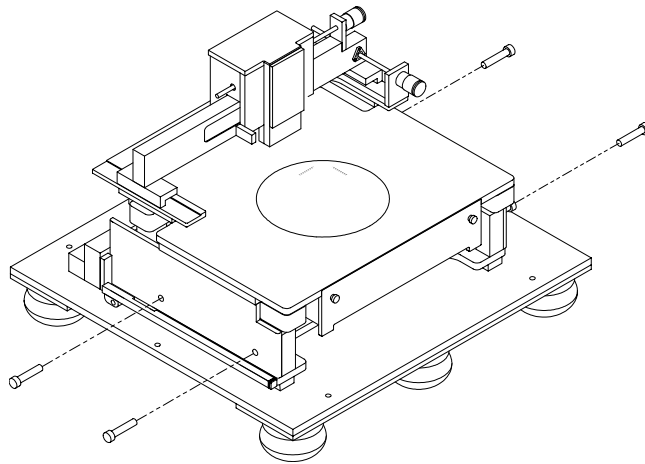

Fig. 11. Lifting handles.
7. Screw in the lift handles (two on each side). Note that the front handles may not screw in all the way (fig. 11).